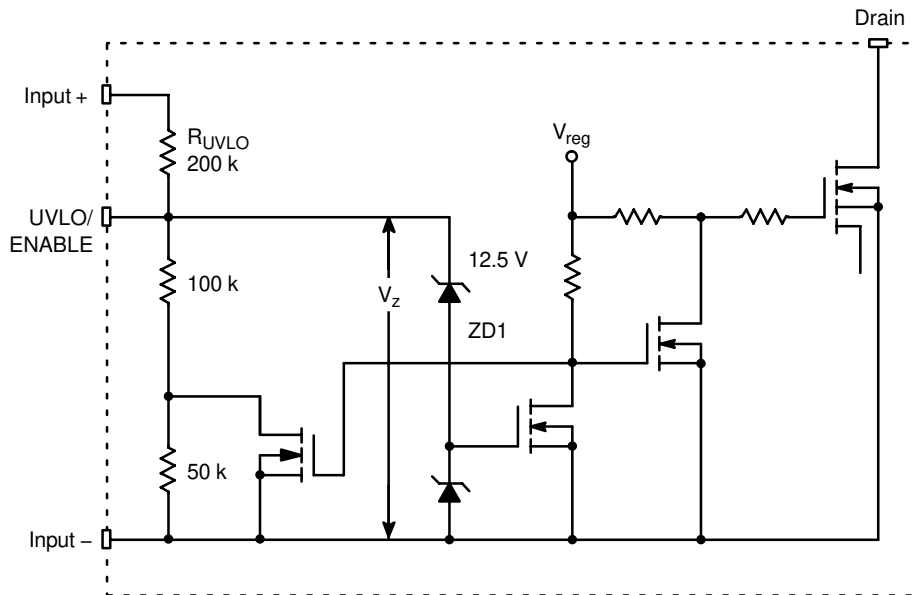

Figure 17. Undervoltage Lockout Circuit
*Undervoltage Lockout:* The UVLO circuit holds the chip off when the input voltage is less than the turn-on limit. It includes internal hysteresis to assure clean on/off switching. An internal divider sets the turn-on voltage level at 46 V. This voltage can be reduced by adding an external resistor from the UVLO pin to the Input + pin. The equivalent circuit is shown in Figure 17.